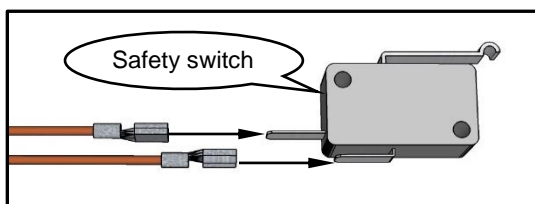

Figure 31
- 6** Connect “red” and “black” wires to door safety switch using the provided spade quick connectors. It does not matter which terminal the “red” and “black” wires are connected to. **(see Figure 31)**